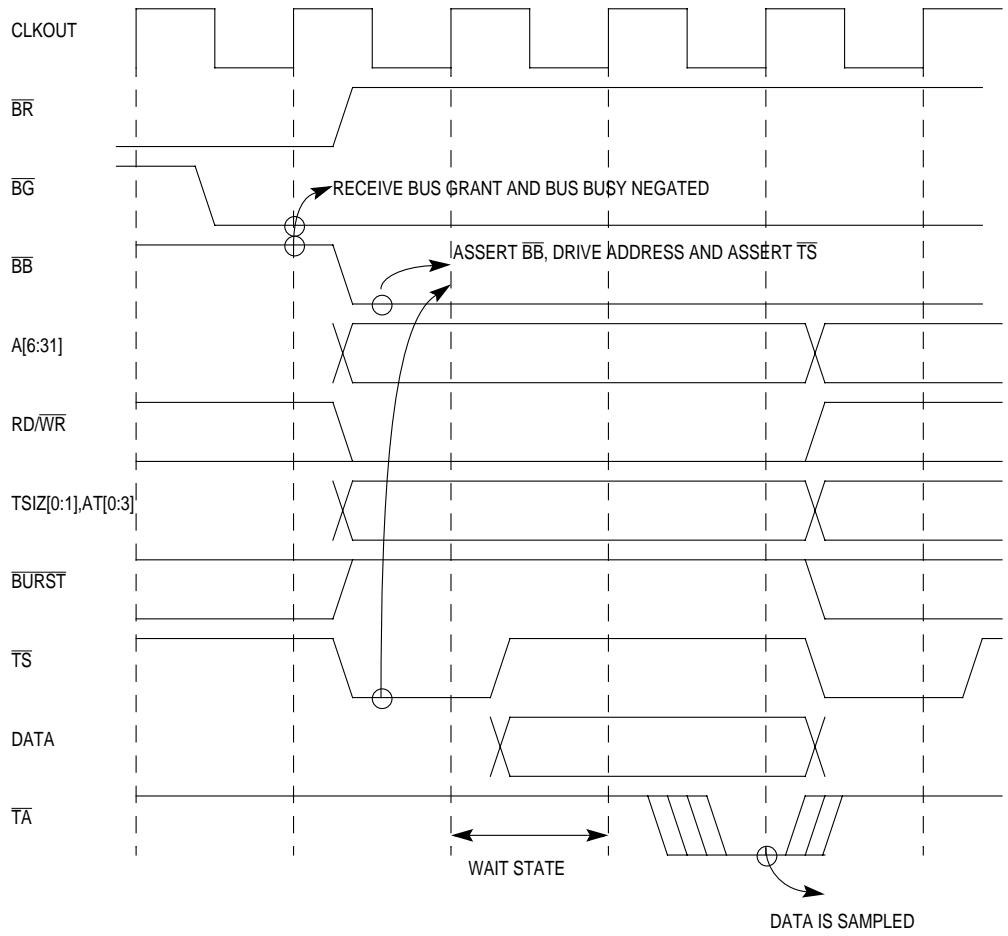
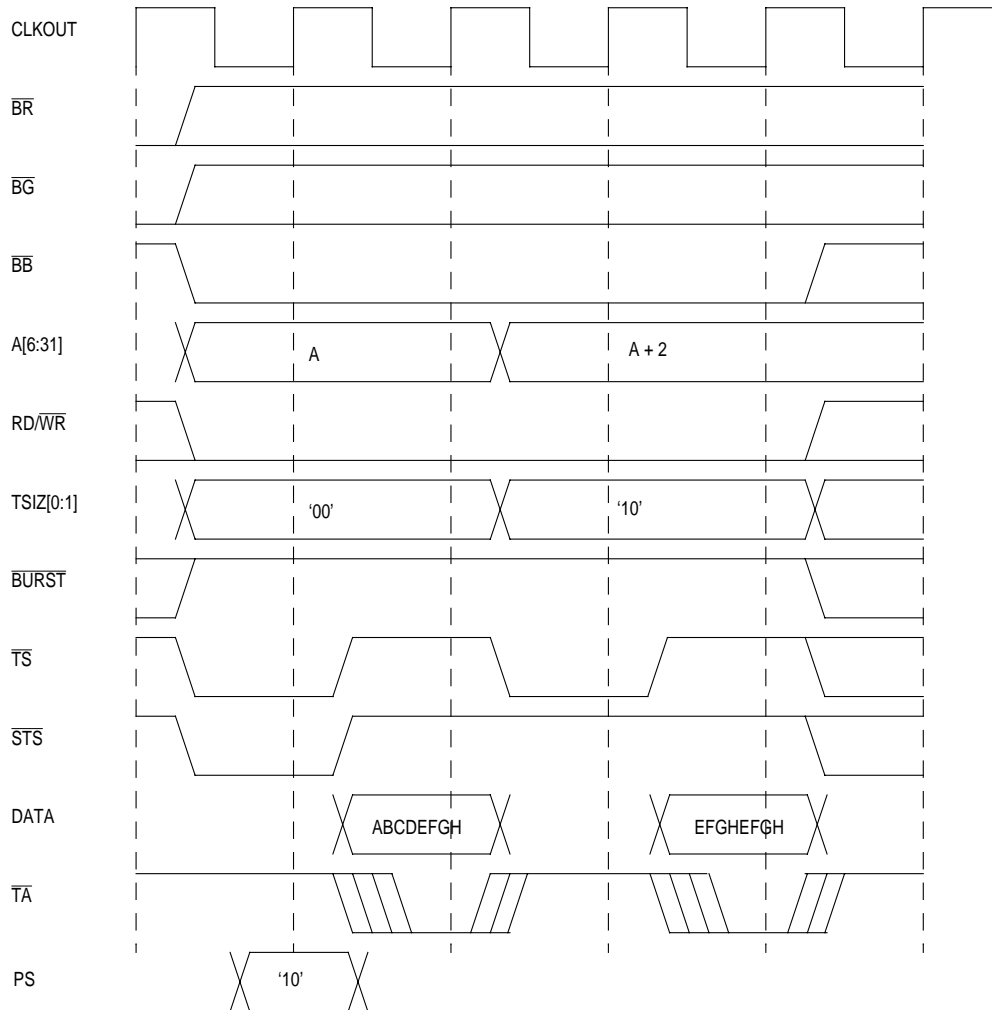

Figure 13-8. Single Beat Write Cycle of One Wait State
Figure 13-9. Single Beat, 32-Bit Data, Write Cycle From a 16-Bit Port Size
**13.4.2.2 SINGLE BEAT WRITE FLOW.** The basic write cycle begins with a bus arbitration, followed by the address transfer and the data transfer. The handshakes are illustrated in Figure 13-6, Figure 13-7, Figure 13-8, and Figure 13-9 as applicable to the fixed transaction protocol.